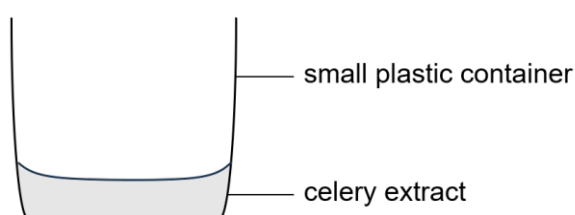

Fig. 1.1
- Step 8 Pour approximately 2 cm³ of the celery extract from test-tube **A** into the small plastic container, as shown in Fig. 1.1.